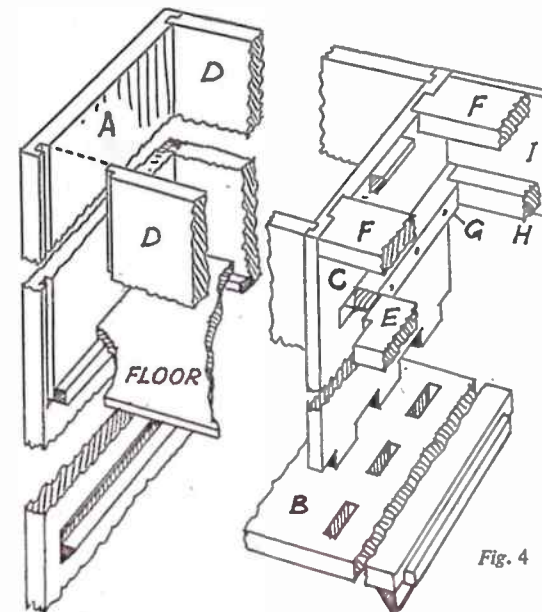
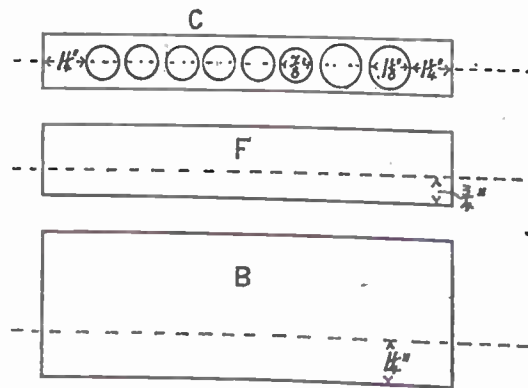

Fig. 4
Fig. 3
screwed inside the sides and along the back (I). This latter consists of $\frac{1}{2}$ in. plywood fixed to the back of rail and to (H), see Fig. 4 and Fig. 3. The top of the table, on the right, is $\frac{1}{2}$ in. thick and may be of plywood, as is also the lid of the cabinet alongside. The top is screwed to the rails and glue-blocked as seen in Fig. 3. The lid is, of course, hinged to the top as in the detail Fig. 5. On the left of the lid is screwed a block of wood to act as a lift when opening it (Fig. 5).
The broken lines in Fig. 3 indicate the centre lines for positioning the holes and hollows. In (C) six holes $\frac{1}{2}$ in.